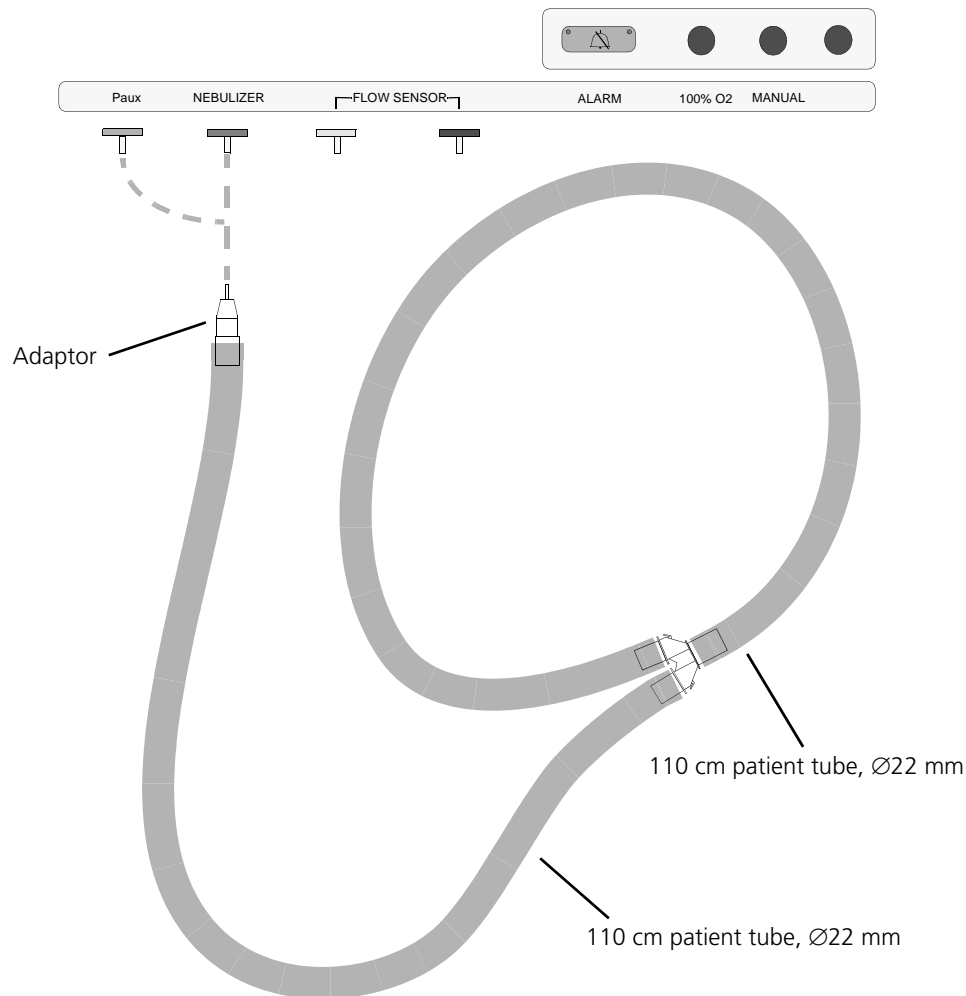

Figure 10-42. Setup for testing the nebulizer valve in the closed position
- b. Construct a vessel of 630 ml volume by using two lengths of 110 cm patient tubing, as shown in Figure 10-42.